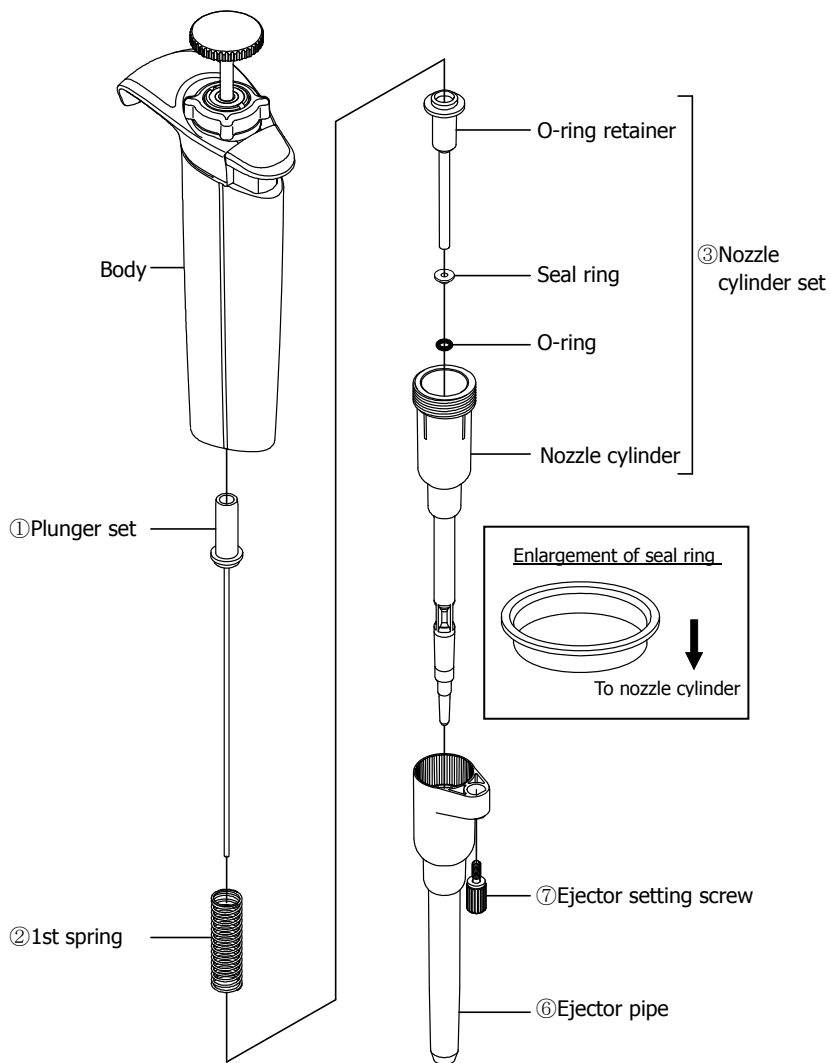
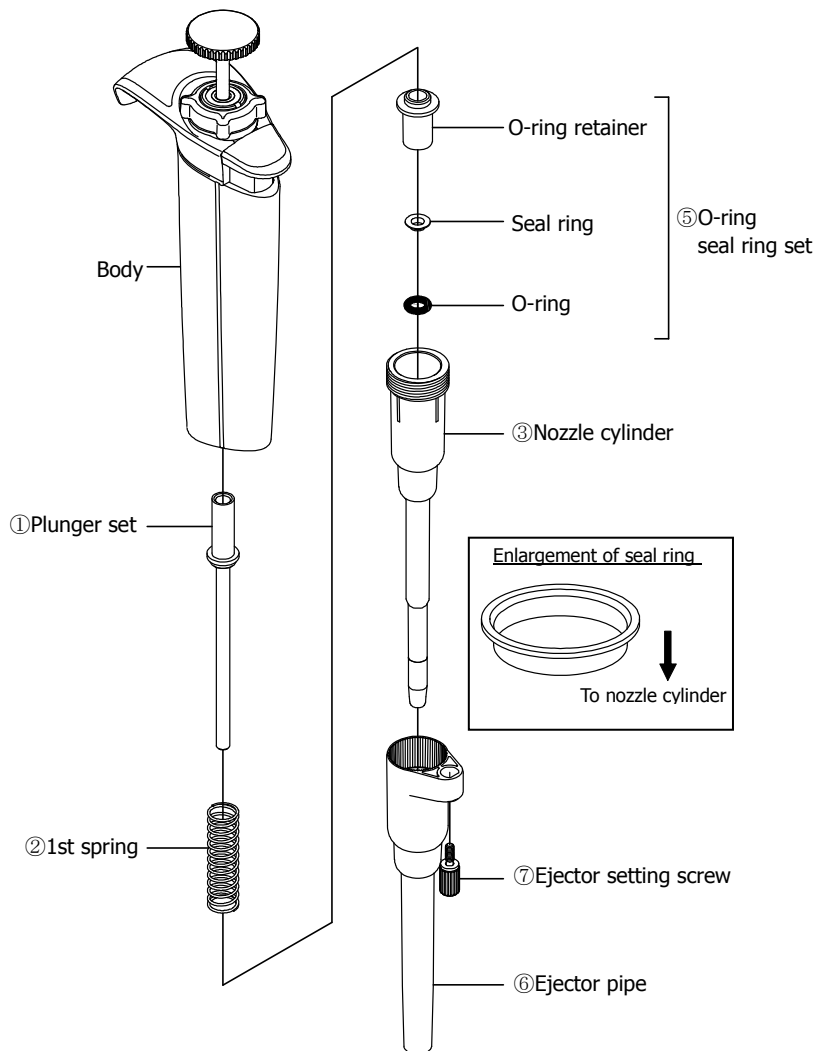

Fig. G1
Fig. G2
- 2, 10, 20ul : Fig. G1, 100, 200ul : Fig G2, 1000ul : Fig G3
②Fit the ejector pipe to the body.
- 2, 10, 20ul : Fig G1, 100,200ul : Fig. G2 1000ul: Fig. G3